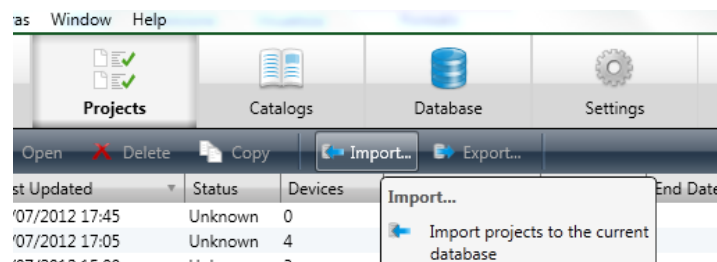

Fig. 8.b
- import Carel_plugin_30.pr4 using File → Import, see Fig.8.b
- Press “Import...”, Fig.8.b.